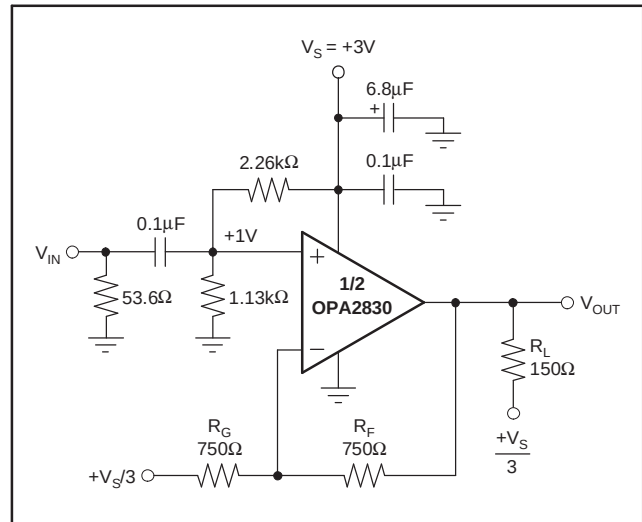
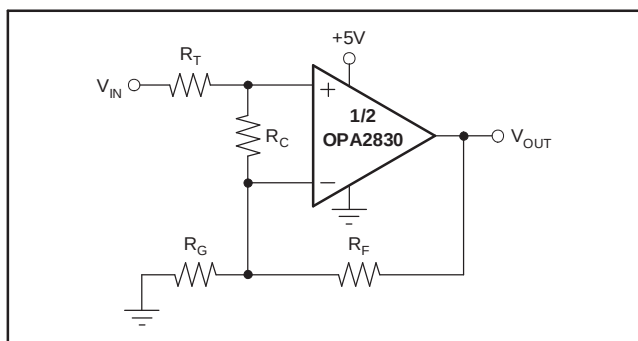

Figure 71. AC-Coupled, G = +2, +3V Single-Supply Specification and Test Circuit
Figure 77. Compensated Noninverting Amplifier
At $T_A = +25^\circ\text{C}$, $G = +2V/V$, and $R_L = 150\Omega$ to $V_S/3$, unless otherwise noted (see Figure 71).
Figure 71 shows the AC-coupled, gain of +2 configuration used for the +3V Specifications and Typical Characteristic Curves. Voltage swings reported in the Electrical Characteristics are taken directly at the input and output pins. For the circuit of Figure 71, the total effective load on the output at
Figure 77 shows a noninverting amplifier that reduces peaking at low gains. The resistor R_C compensates the OPA2830 to have higher Noise Gain (NG), which reduces the AC response peaking (typically 4dB at $G = +1$ without R_C) without changing the DC gain. V_{IN} needs to be a low impedance source, such as an op amp.
Frequency response in a gain of +2 may be modified to achieve exceptional flatness simply by increasing the noise gain to 3. One way to do this, without affecting the +2 signal gain, is to add an $2.55\text{k}\Omega$ resistor across the two inputs, as shown in Figure 77. A similar technique may be used to reduce peaking in unity-gain (voltage follower) applications. For example, by using a 750Ω feedback resistor along with a 750Ω resistor across the two op amp inputs, the voltage follower response will be similar to the gain of +2 response of Figure 71. Further reducing the value of the resistor across the op amp inputs will further dampen the frequency response due to increased noise gain. The OPA2830 exhibits minimal bandwidth reduction going to single-supply (+5V) operation as compared with $\pm 5\text{V}$. This minimal reduction is because the internal bias control circuitry retains nearly constant quiescent current as the total supply voltage between the supply pins is changed.
The criterion for setting this R_S resistor is a maximum bandwidth, flat frequency response at the load. For a gain of +2, the frequency response at the output pin is already slightly peaked without the capacitive load, requiring relatively high values of R_S to flatten the response at the load. Increasing the noise gain will also reduce the peaking (see Figure 77).